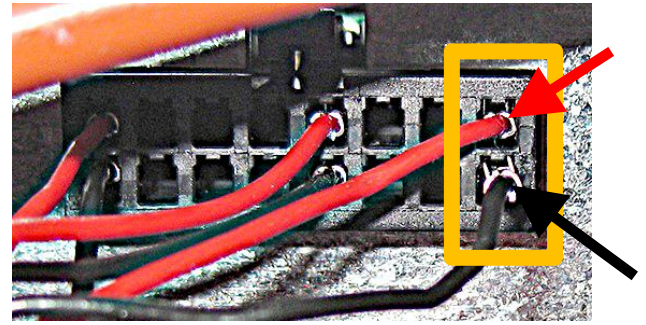

Figure 38
35. Locate the 16-pin connector on the rear of the ATO box and the two (2) wire harness (8122520). Insert the red wire into pin-1 and the black wire into pin-9 with the tabs up as shown (see Figure 38).